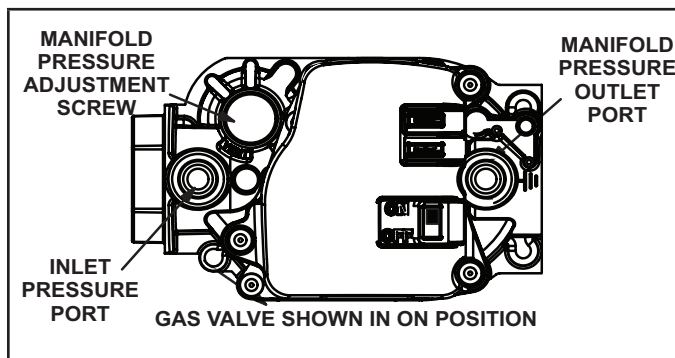

Figure 60
Gas Valve Operation (Figure 60)
- 6 - Move gas valve switch to OFF. See Figure 60.
- 8 - Move gas valve switch to ON. See Figure 60.